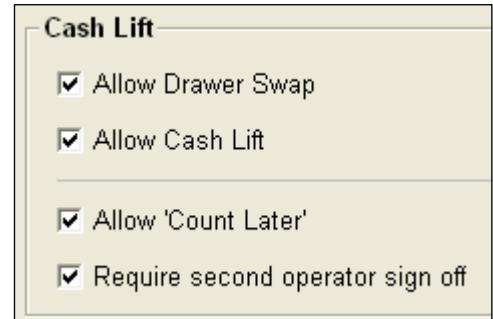

Figure 105
5. Under the 'Cash Lift' part of the window there are four tick boxes (see Figure 105) they are defined as follows: